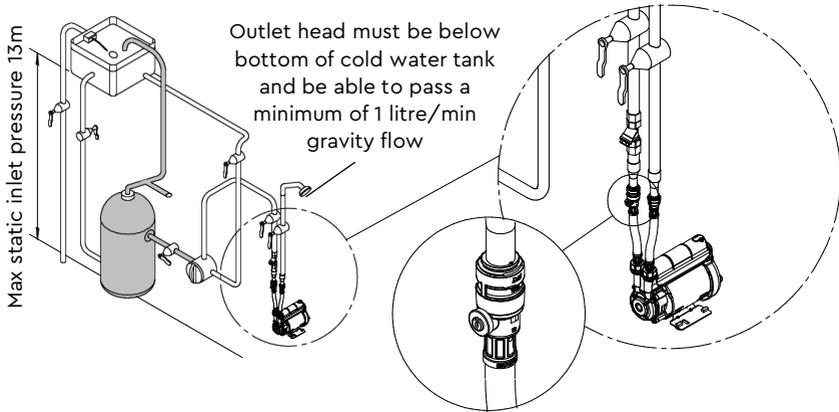
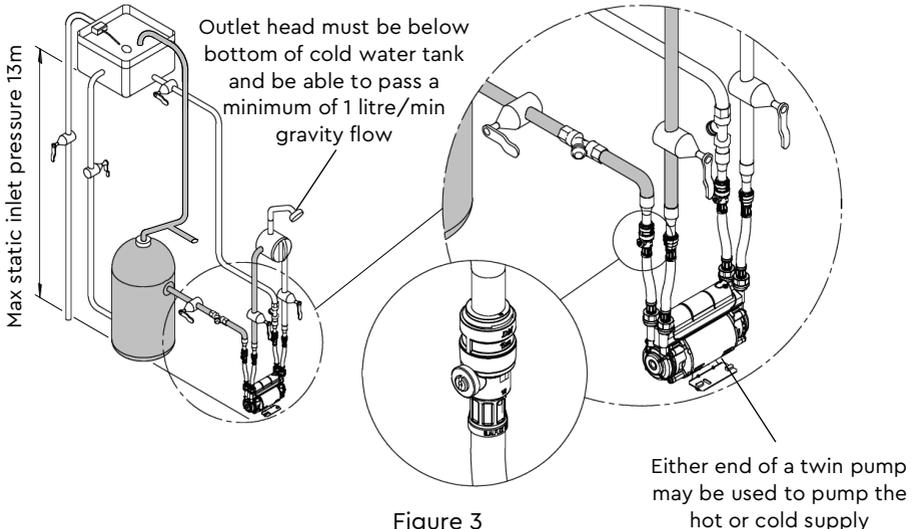

Figure 2
Figure 3
- The use of a Stuart Side Entry cylinder flange, which should have the addition of an inverted loop ("U" bend) of 350 mm minimum drop before rising to the pump, located as close as possible to the cylinder wall. This will ensure the pump receives an air free supply and the cylinder vents any air up the vent pipe and not the pump feed (Figure 2 and Figure 3).